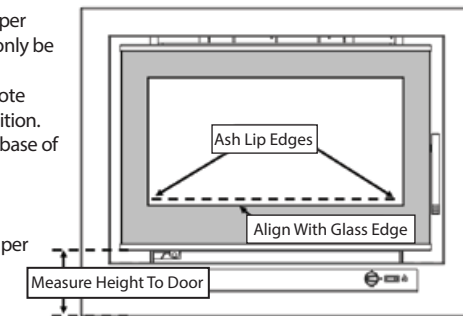

Figure 7-2
- Check the alignment of the door by measuring vertically from the underside of the door at each outer edge, to the base of the fascia, as per figure 7-2. This measurement should be taken with the hinge bolts tightened and with the door hanging under its own weight.